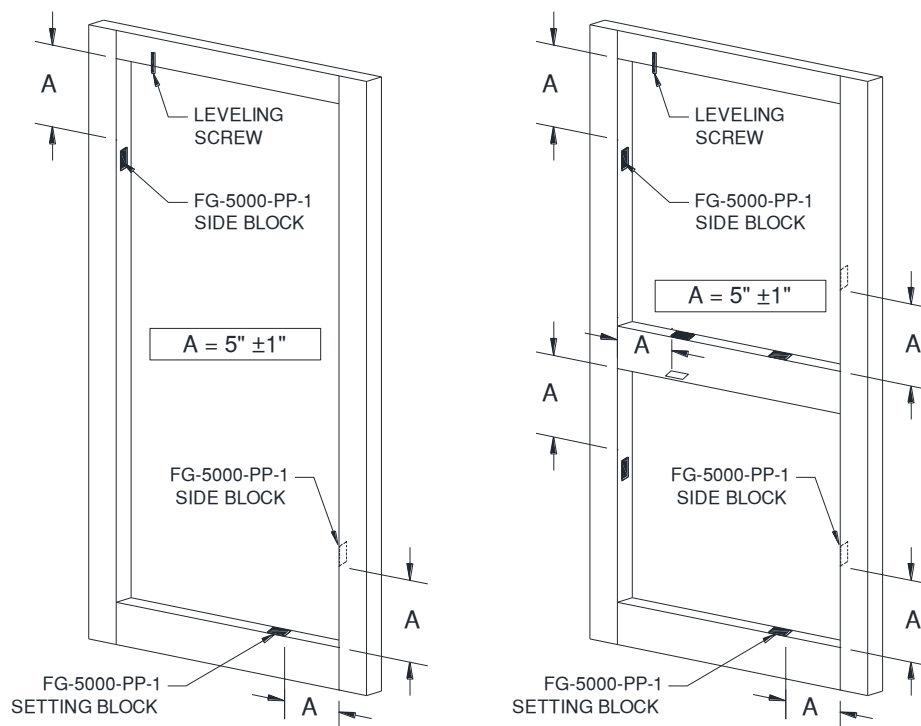

Figure 27: Locating Setting Blocks / Side Blocks
12.2.2 Install **FG-5000-PP-1** Setting Blocks and Side Blocks per *Figure 27*. The blocks are adhesive-backed for easy installation. Setting Blocks and Side Blocks may be doubled as required to compensate for glass tolerances.